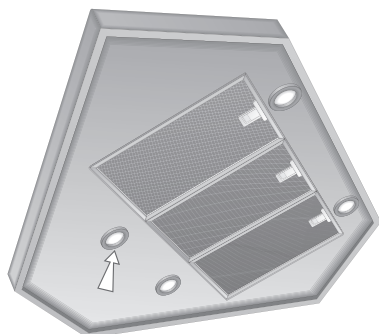

Fig. 4
- Mount the reduction connector 120/150 where the discharge air pipe is a diameter of Ø125. (Fig. 4)